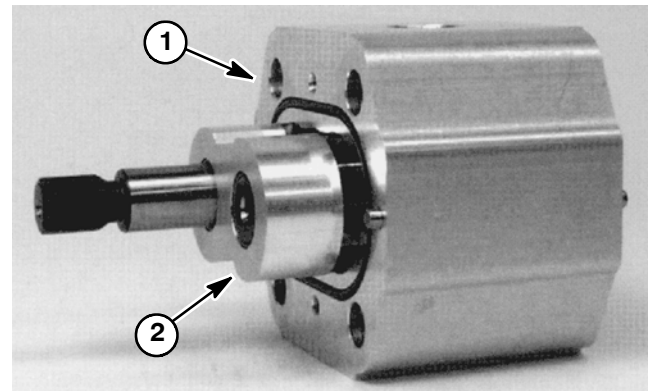

Figure 96
7. Place the motor on its side and push on the rear bearing block to remove the bearing block and gear set (Fig. 96).